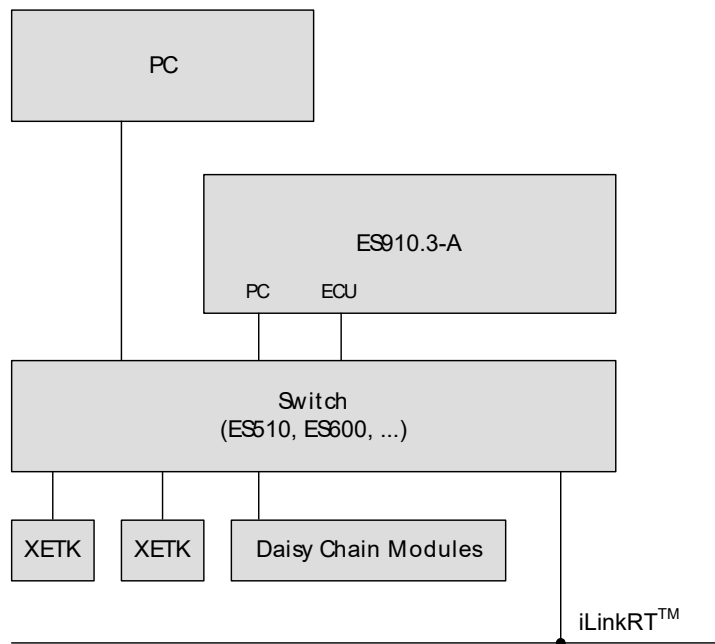

Fig. 4-8 Operation with external switch and iLinkRT™ at the ECU interface
*If an external switch **with** iLinkRT interface is used at the ECU interface, the PC or Drive Recorder may **not** be **directly** connected with the PC interface of ES910.3-A. PC or Drive Recorder must be connected to the external switch (see Fig. 4-8 on page 38).*